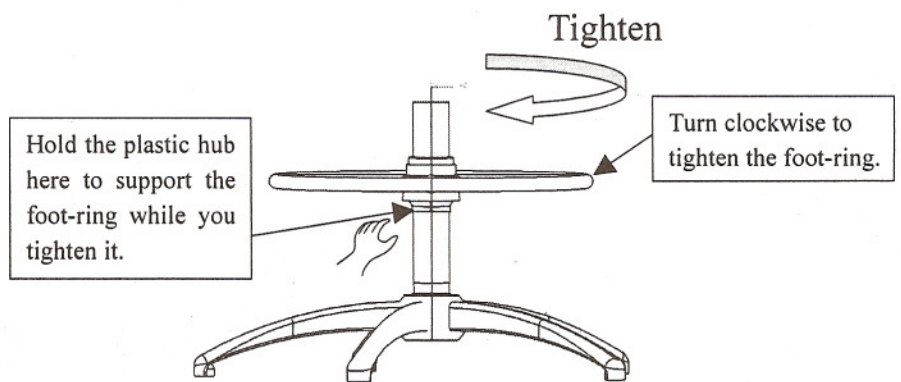

Fig 4.
2. Assembly - Position the foot-ring on the gas cylinder at the desired height. Hold the bottom of the plastic hub with one hand and the outer ring with the other. Turn the outer ring clockwise to tighten the foot-ring. (Refer to Fig. 4)
Adjust the height as required and then tighten again. (Refer to Fig. 4)